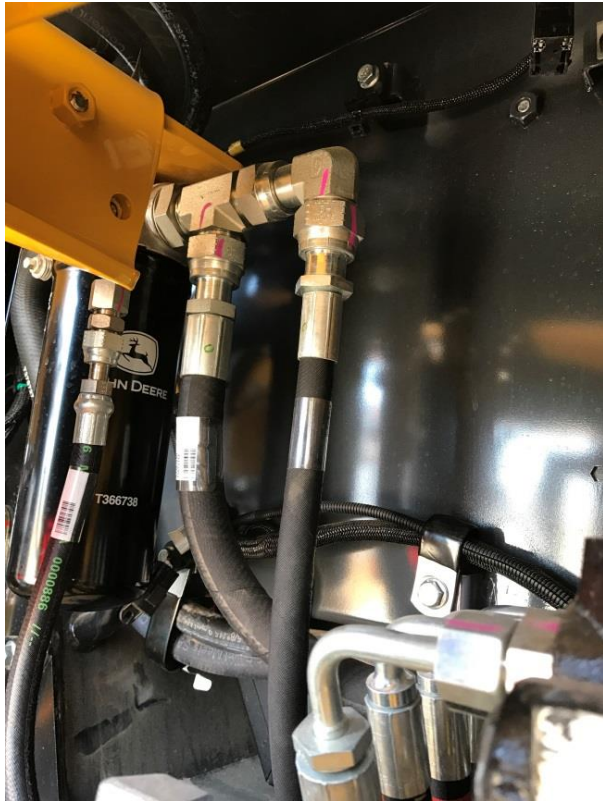

Fig. 8 - Tractor hydraulic return lines.
14. Locate the hydraulic oil return lines as seen in figure 8.